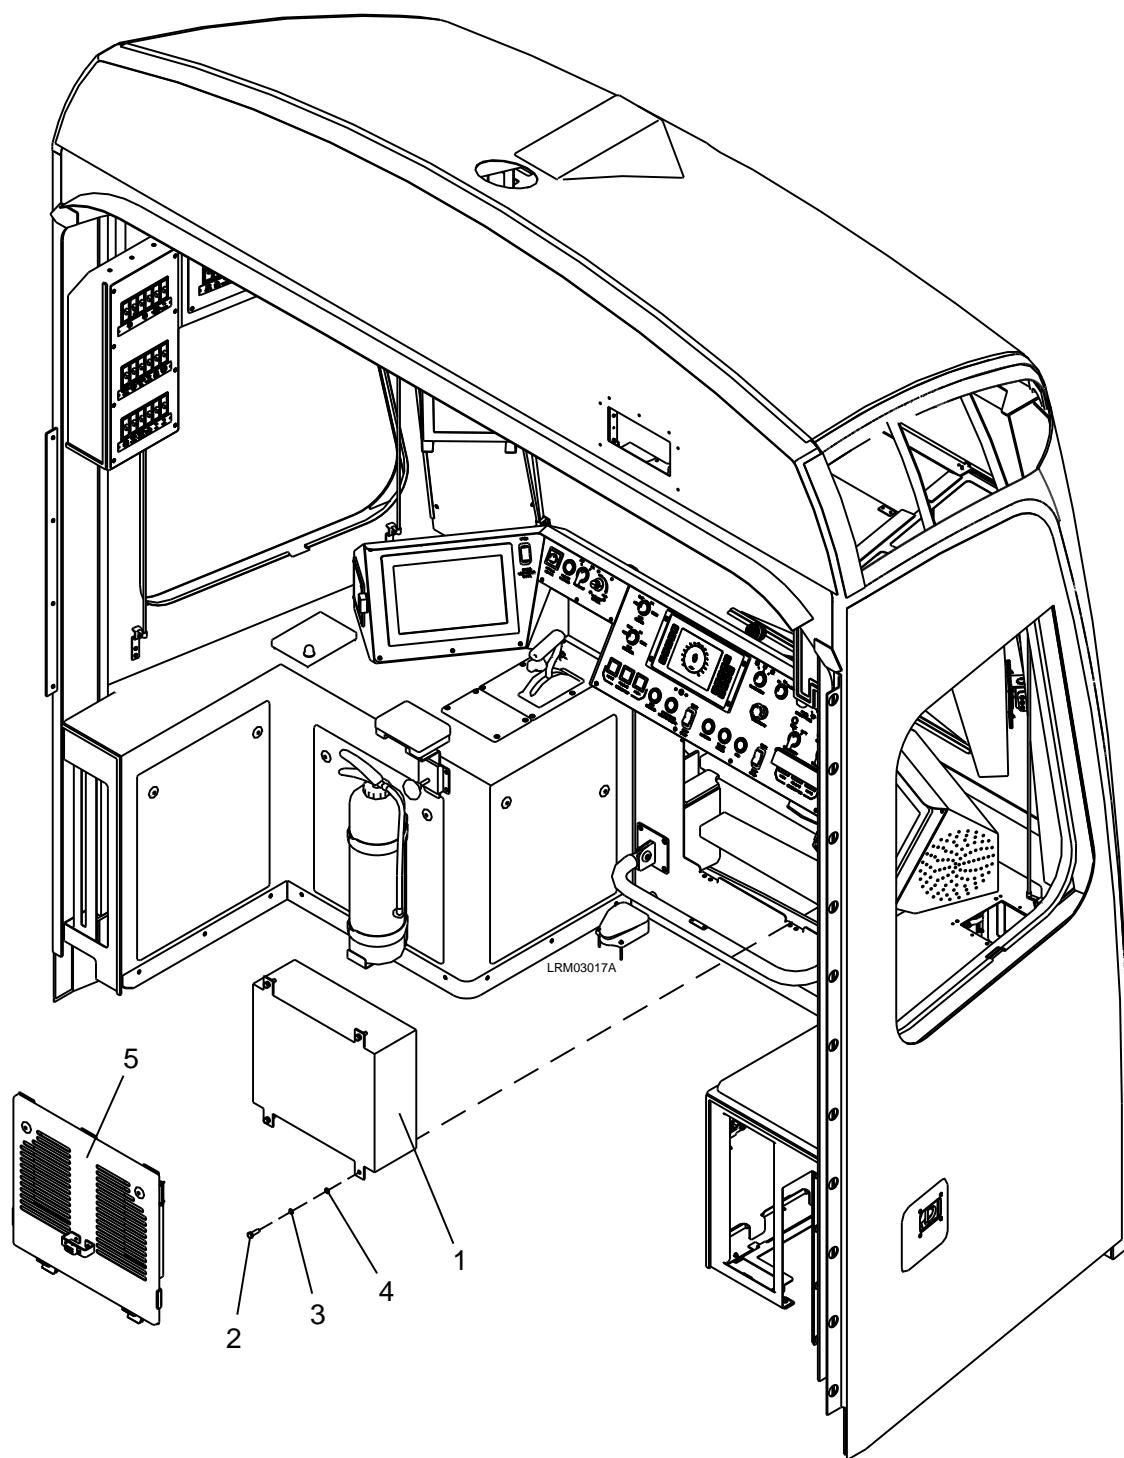

Figure 7-15: Cab Heater
1. Unlock the two locks and remove the front access panel (5). See Figure 7-15.